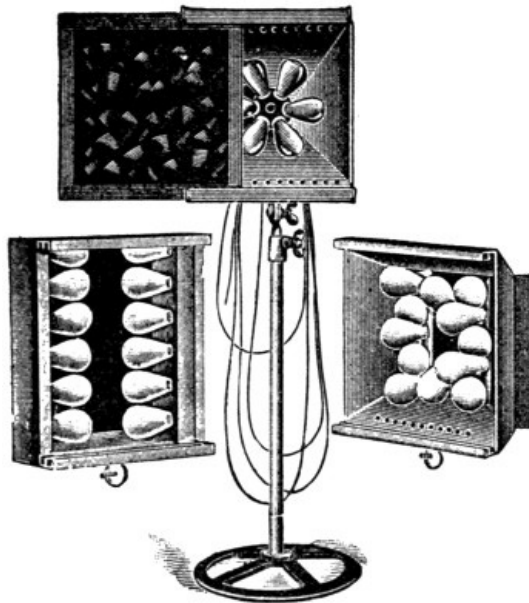
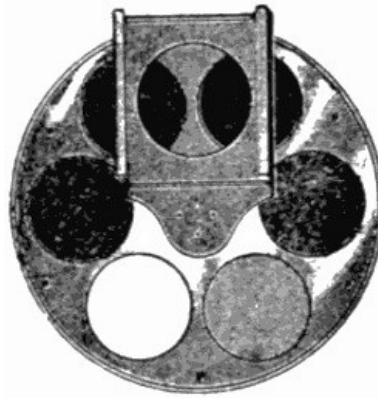

FIGURE 188.
FIGURE 192.
*Bunch Lights.*—Bunch lights are made up according to the plans shown in Figure 188. They are used only on the stage. No very brilliant illumination can be obtained from them. In one well-known production a bunch light containing one hundred 32 c.-p. lamps was used without obtaining the result desired. The light cannot be concentrated as can that from arc lamps. Bunch lights, however, have the advantage of not requiring so much attention as arc lamps and can often be used on a shallow stage where arc lamps would be out of place. Bunch lights are sometimes made double, two on one stand; two colors can thus be used at the same time and certain color changes facilitated. Color effects or changes in colors are brought about by inserting colored gelatine slides in front of the lights.
*Colors.*—Where a certain color is wanted, during the whole show, from a certain light source, the incandescent lamps themselves may be colored. Prepared colors for this purpose are on the market and it is best to use them. Where the colors in a scene change rapidly there must be some colored material available which can be quickly interposed between the light and the scene. The manner in which this is done for bunch lights is indicated in Figure 188. The same method is also used in connection with open-arc lamps, but for spot lights there is another method, shown in Figure 192. This is a so-called color wheel and the colors can be changed by simply revolving the wheel until the proper color is in front of the lens. An automatic color wheel is on the market which allows the operator to control colors at a distance by means of an electric circuit and magnet. This device cannot be used with flood lamps and has the further disadvantage of casting unavoidable shadows during the change of colors. Where detachable color holders are used, it is possible to change from one color to another by almost imperceptible degrees by holding the frame in the hand and bringing it gradually from a distance to the front of the lamp. In this manner the shadows cast by the frame can be avoided and the color brought very gradually into the scene.